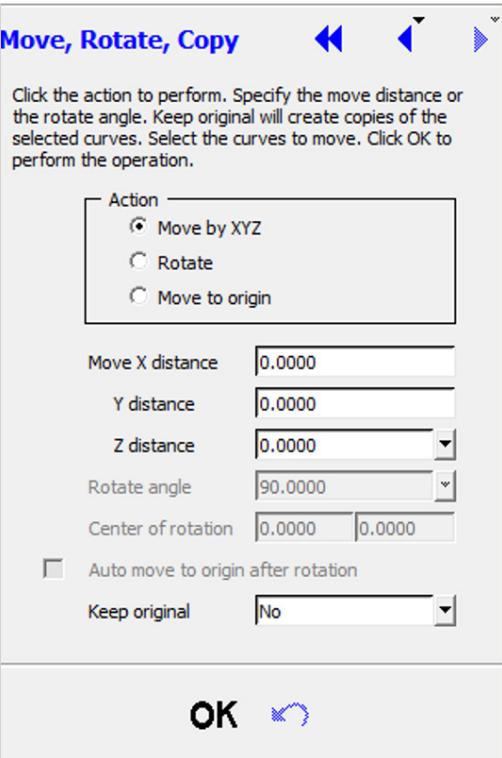
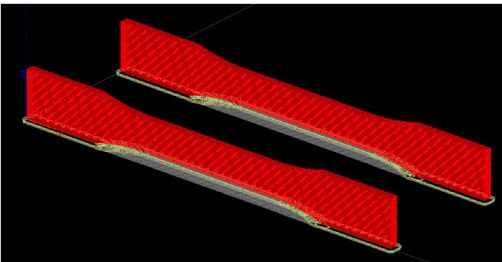

Figure 7. Move, rotate, copy menu on the right side of the screen.
Figure 8. Part copied in Insight.
- 3. In the menu on the right side of the screen (Figure 7), select the option **Yes** next to **Keep original**, then enter the offset from the origin where the part should be copied. Click **OK** and the part will copy into the new location (Figure 8). Repeat this process until the correct number of copies is in the file, regenerate toolpaths and save the job.